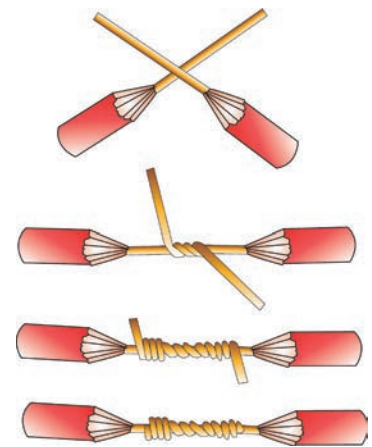

Fig. 9.53 Wire joints
- Press the ends of the wires down close to straight portions of the wires to prevent the ends from intruding through the insulation tape (as shown in Fig. 9.53)